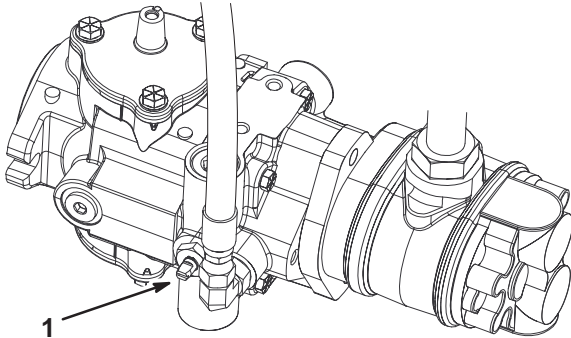

Figure 32
1. Locate the bypass valve on the pump and rotate it so that the slot is vertical (Fig. 32).
2. Before starting the engine, close the bypass valve by rotating it so that the slot is horizontal (Fig. 32). Do not start the engine when the valve is open.